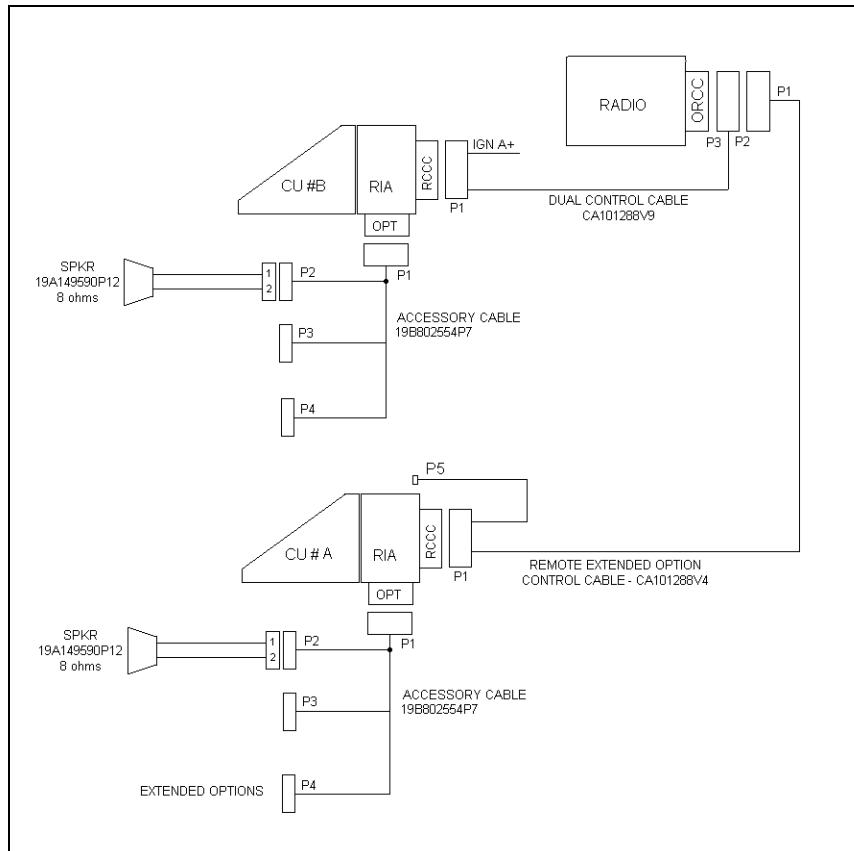

Figure 27 – M7100^{IP} Dual Control Unit Remote/Remote Mount Installation Configuration – Parallel Audio
11. Main Control Unit Speaker: Connect the lead nearest the speaker to Pin 87 of the relay. Connect the lead nearest the connector to Pin 30 of the relay. Connect connector to the accessory cable P2 (Refer to Figure 27).
12. Auxiliary Control Unit Speaker: Connect the lead nearest the speaker to Pin 87A of the relay. Connect the lead nearest the connector to Pin 30 of the relay. Connect the connector to accessory cable P2 (Refer to Figure 27).
the mating Molex connector to the accessory cable P3 when finished (Refer to Figure 27).
14. For Each Relay: Connect one end of a #18 AWG red wire to the relay, Pin 86. Cut the lead to length, and connect the other end to the 1 amp fuse holder supplied. Use crimp on connectors supplied. Connect the other side of the 1 amp fuse holder to the A+ battery source or a vehicle A+ fuse block. Use a #18 AWG red wire and a ring lug supplied, if needed (Refer to Figure 27).